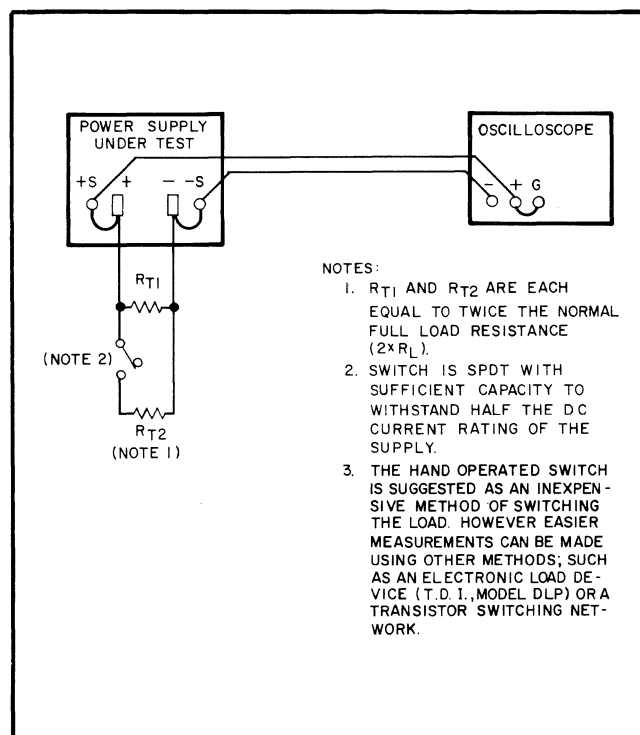

Figure 5-4. Transient Recovery Time, Test Setup
5-31 As shown in Figure 5-4, a hand-operated switch is used to switch between half and full load operation. The resultant one-shot displays are observed on an oscilloscope. A storage type oscilloscope, such as the HP Model 181A, is useful when attempting to observe the single shot events. Each load resistor is twice the normal full load resistance (Paragraph 5-11). The switch must be capable of handling at least half of the supply's output current and care should be taken so that contact "bounce" does not mask the true transient recovery waveform.
- Connect test setup shown in Figure 5-4.